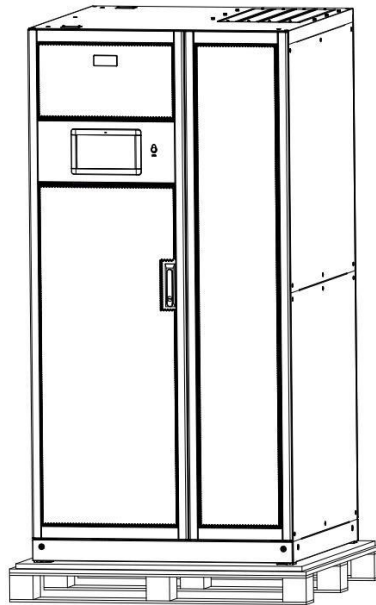

Figure 3-5 Remove the protective foam
Step 4: Remove the protective foam around the cabinet as Figure 3-5;